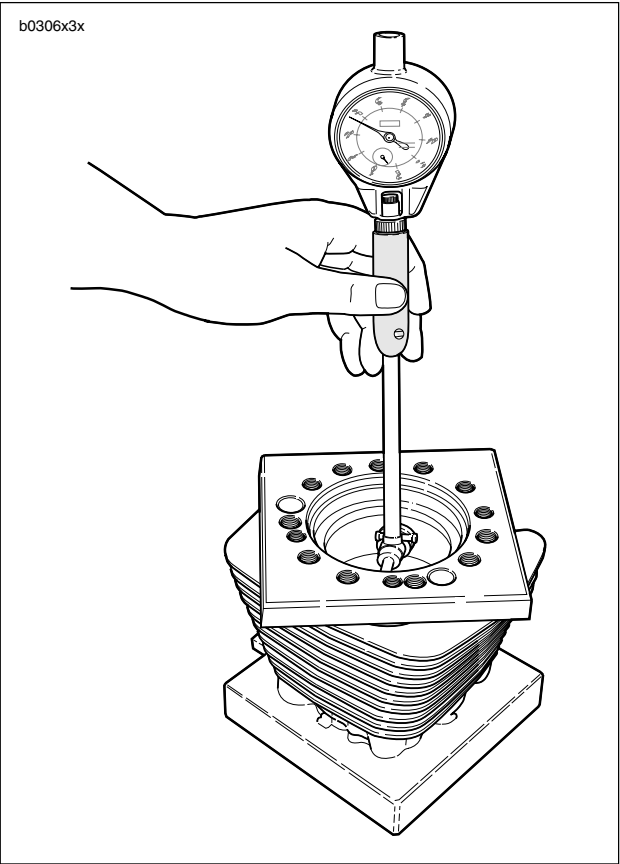

Figure 3-94. Measuring Cylinder Bore Using Torque Plates (Part No. HD-33446B)
- 2. See Figure 3-94. Install a head gasket, base gasket and O-rings, and CYLINDER TORQUEPLATES (Part No. HD-33446B) and XL EVOLUTION TORQUE PLATE BOLTS (Part No. HD-33446-86). Tighten the bolts using the same method used when installing the cylinder head screws. See 3.6 CYLINDER HEAD.
- 3. See Figure 3-94. Take cylinder bore measurement in ring path, starting about 0.50 in. (12.7 mm) from top of cylinder, measuring from front to rear and then side to side. Record readings.